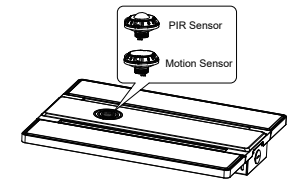

Figure 10
- Step2. Twist-lock the DC sensor to the base to make it work properly, use a remote control to adjust the working mode as per demand.(Figure 10)